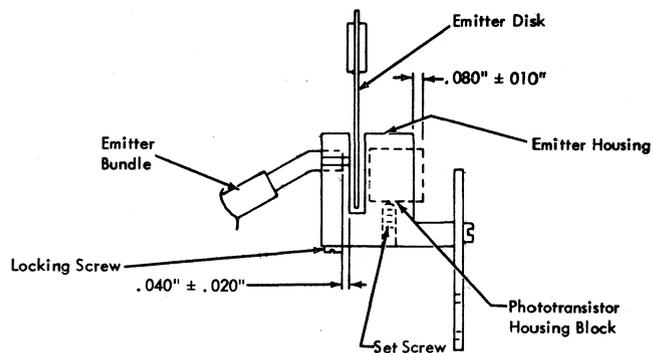

Figure 4-19. Emitter Bundle and Phototransistor Adjustment
1. Position bundle so bundle surface is recessed in emitter housing $.040'' \pm .020''$ (Figure 4-19). The surface of the bundle must not protrude against the emitter disk.